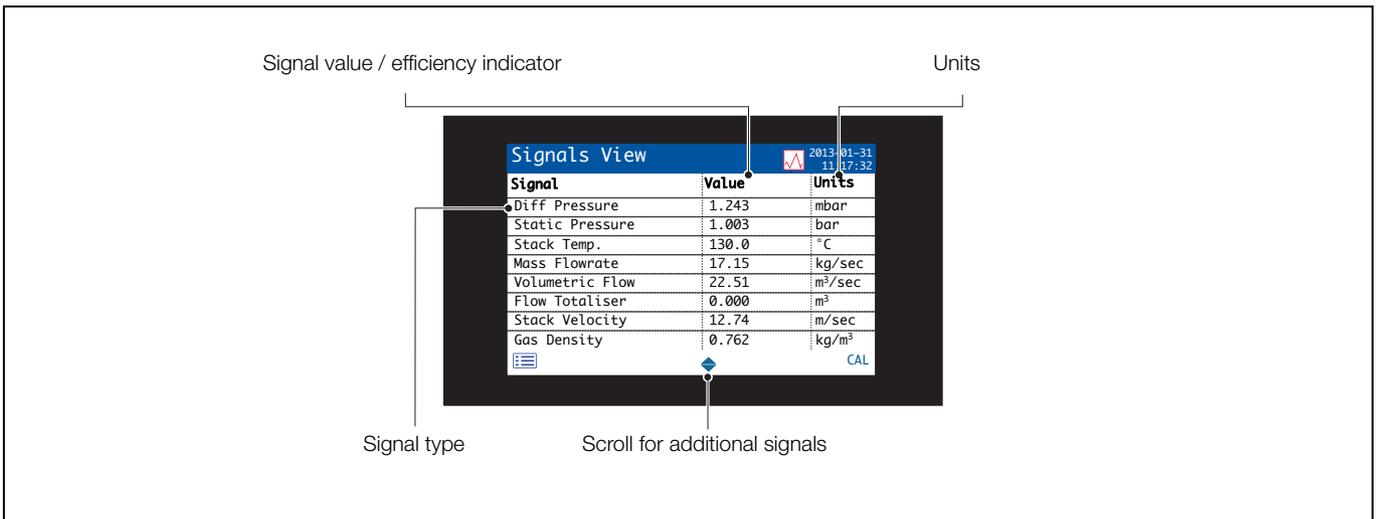

Fig. 9.9 Signals view
- *Signals View*: used to display a list of active signals and their values – see Fig. 9.9.